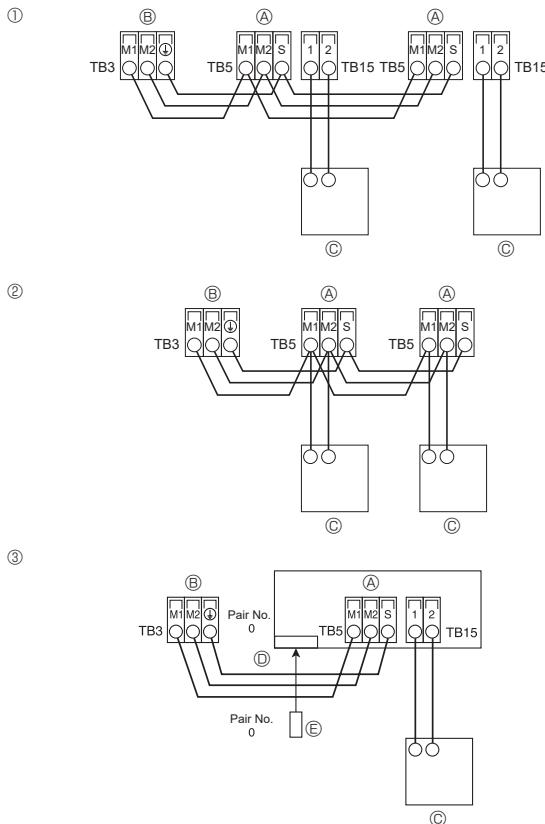

Fig. 5-3
5.3. Connecting remote controller, indoor and outdoor transmission cables (Fig. 5-3)
- ① MA Remote controller
- ② M-NET Remote controller
- ③ Wireless remote controller(When installing wireless signal receiver)